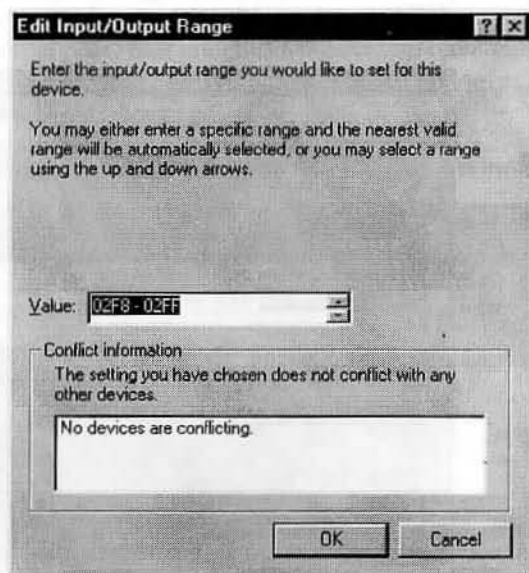

Figure 2-4
- From the **Edit Input/Output Range** dialog box, select the I/O port address to match the board setting in the "Value" drop-down box. (see Figure 2-4)